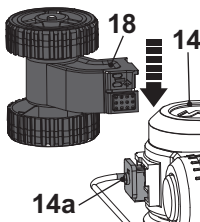

Fig. 2
1. Align the sliding slots of the edger wheel (18) with the edger support (14a) in front of the motor housing (14) and slide the edger wheel (18) in to attach it. Ensure it clicks in place (Fig. 2).